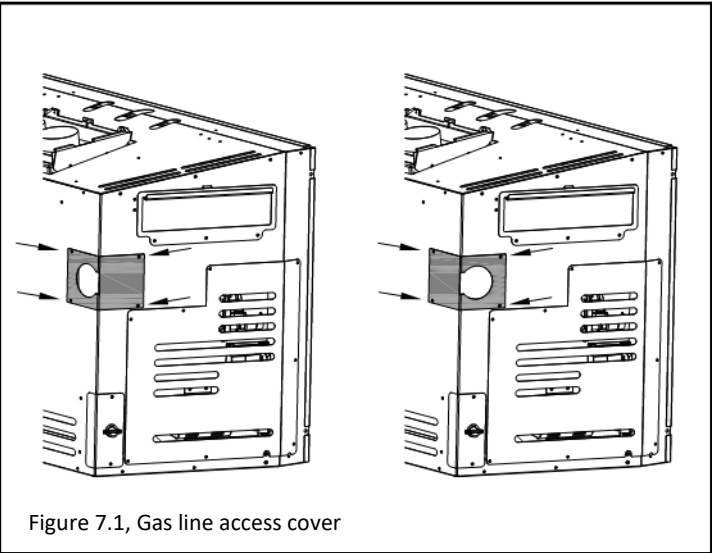

Figure 7.1, Gas line access cover
1. Remove (4) screws securing the gas line access hole cover.
2. Follow Figure 7.1 for positioning the gas line access hole cover necessary for your installation.